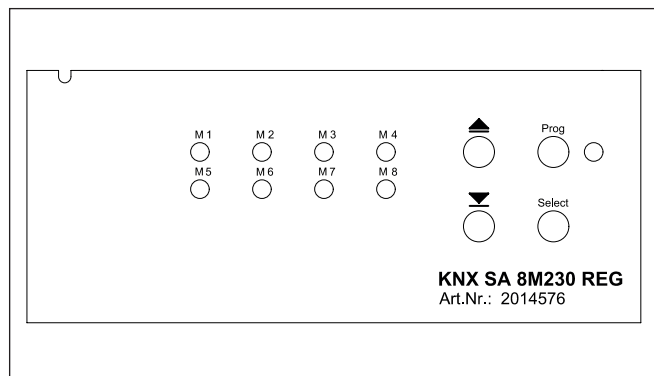

Fig. 2 Keypad
After the installation has been completed and the operating voltages have been applied, the device can be operated using a keypad (Fig. 2).
- Press the programming button (Fig. 2) to put the device into programming mode. The LED lights up red when programming mode is active. The device is programmed on a PC using the ETS. This software ends the programming mode automatically. The red LED goes out.